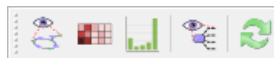

Figure 75 Initial MassVisualizer toolbar
- b Click **MassVisualizer Toolbar** (Figure 75).